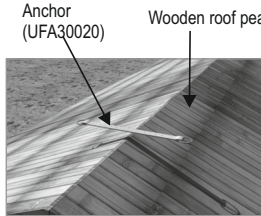

Fig. 1- Wooden roof structure on to which anchor is to be installed.
STEP 1: Place the anchor plate to match the surface it will be mounted on, either a roof peak or flat surface. Ref fig.1. The anchor must be placed in such a way that the product label faces upward and butyl flash tape sticks to the roof surface.